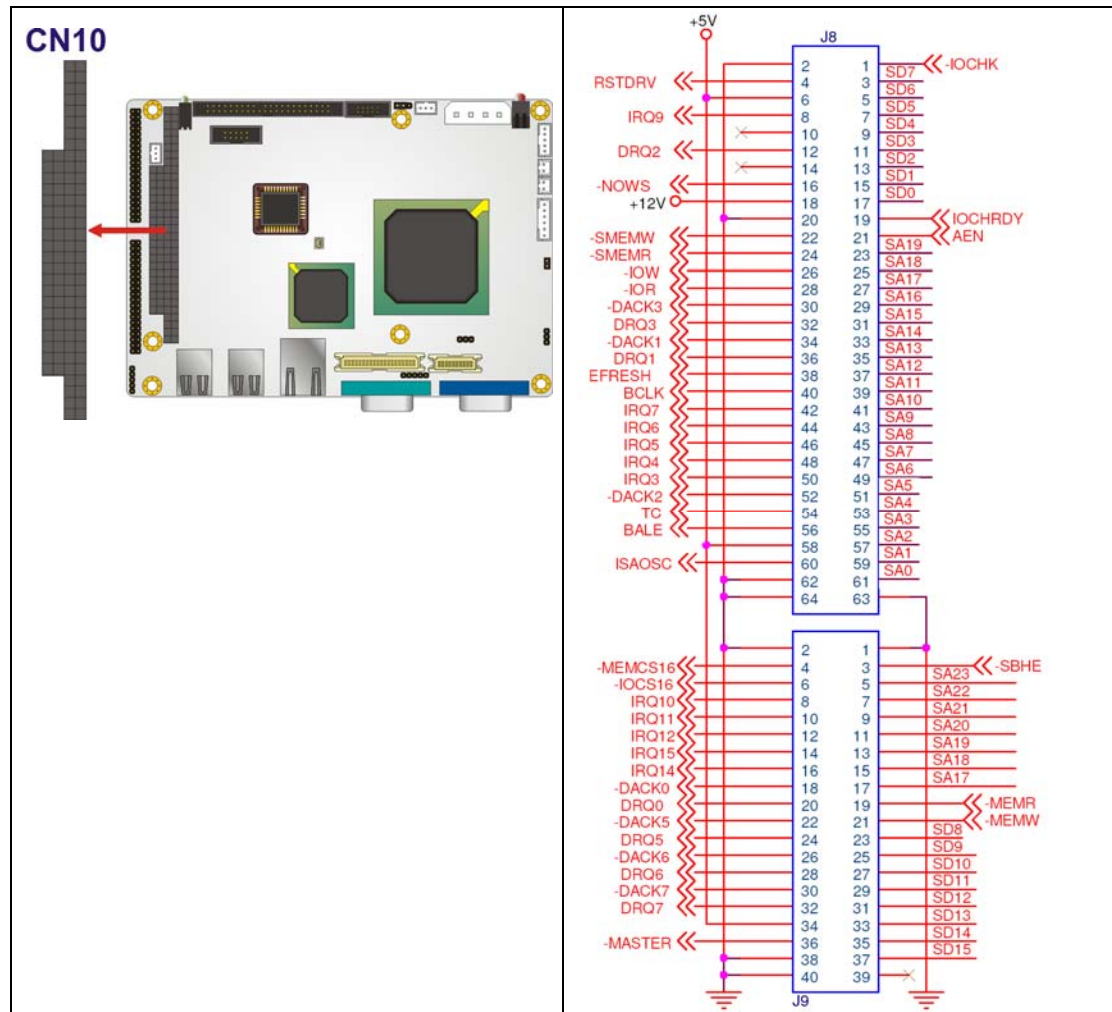

Figure 4-12: PC/104 Slot Location
- CN Location:** See **Figure 4-12**